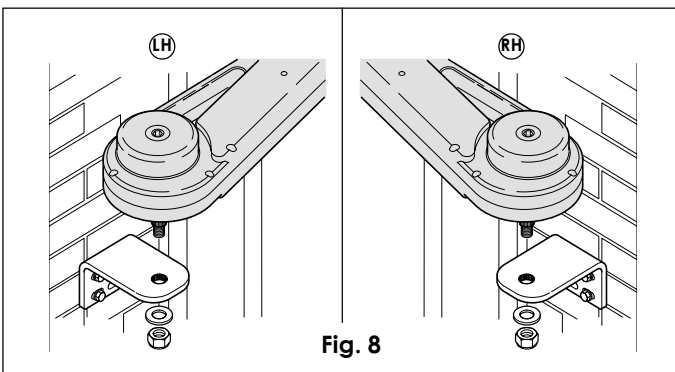

Fig. 8
- Secure the operator to the rear fitting, with the nut and washer (Fig.8), taking care fit the toothed part correctly.